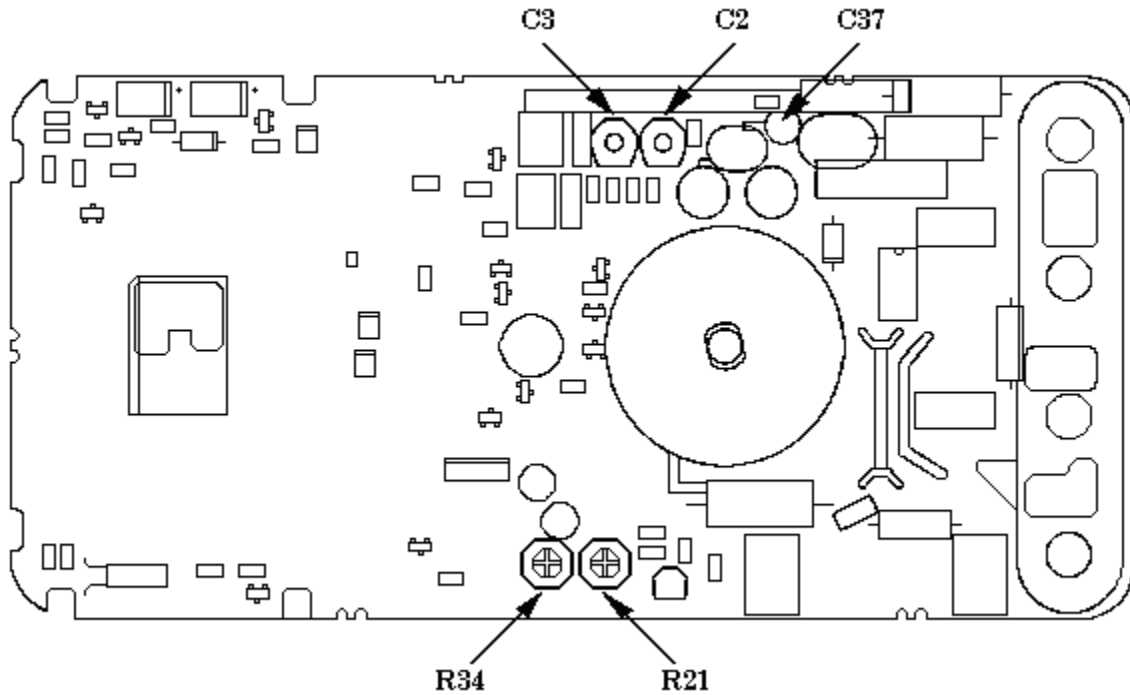

Figure 1. Adjustment locations.
(1) Set function switch to  $V_{DC}$ .
(2) Set calibrator for an output of 3.900 V dc.
(3) Adjust R21 (fig. 1) until TI indicates 3.900 V dc (R).
(4) Repeat a (1) through (4) above.
(1) Set calibrator for an output of 3.513 V at a frequency of 50 Hz.
(2) Adjust R34 (fig. 1) until TI indicates 3.500 V ac (R).
(3) Change calibrator output amplitude to 100.0 V at a frequency of 20 k Hz.
(4) Adjust C37 (fig. 1) until TI indicates 100.0 V ac (R).
- (5) Change calibrator output amplitude to 3.500 V at a frequency of 10 kHz.
- (6) Adjust C2 (fig. 1) until TI indicates 3.500 V ac (R).
- (7) Change calibrator output amplitude to 35.00 V at a frequency of 10 kHz.
- (8) Adjust C3 (fig. 1) until TI indicates 35.00 V ac (R).